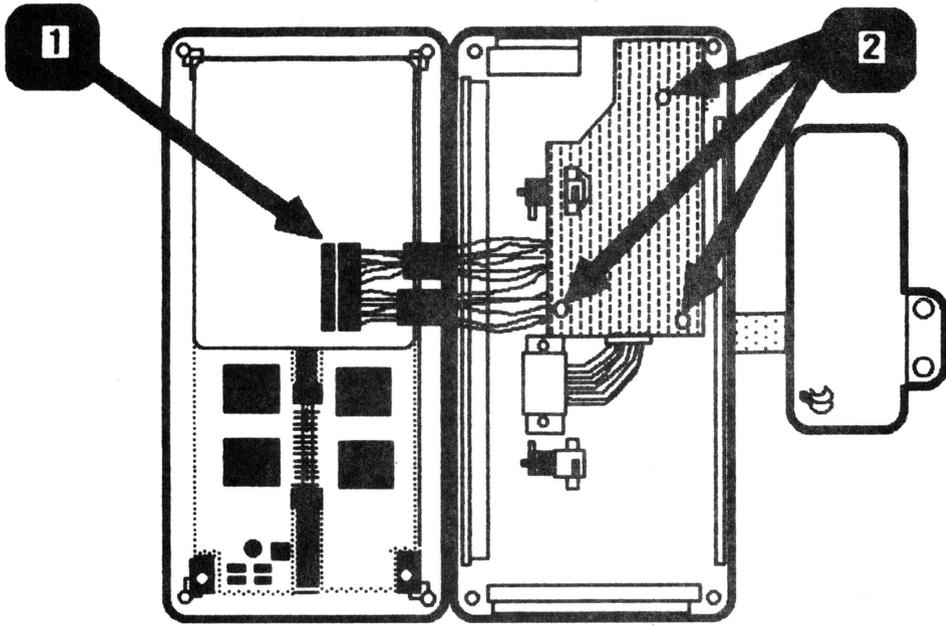

FIGURE 6
2. Disconnect the contrast card connector (Figure 6, #1) from the LCD.
3. Remove the Phillips screws (Figure 6, #2) which secure the card to the case and lift the card out.
2. Place the contrast card on the plastic support posts as shown in Figure 6.
3. Replace the Phillips screws (Figure 6, #2) to secure the card to rear panel.
4. Connect the LCD connector to the LCD. (See Figure 6, #1.)